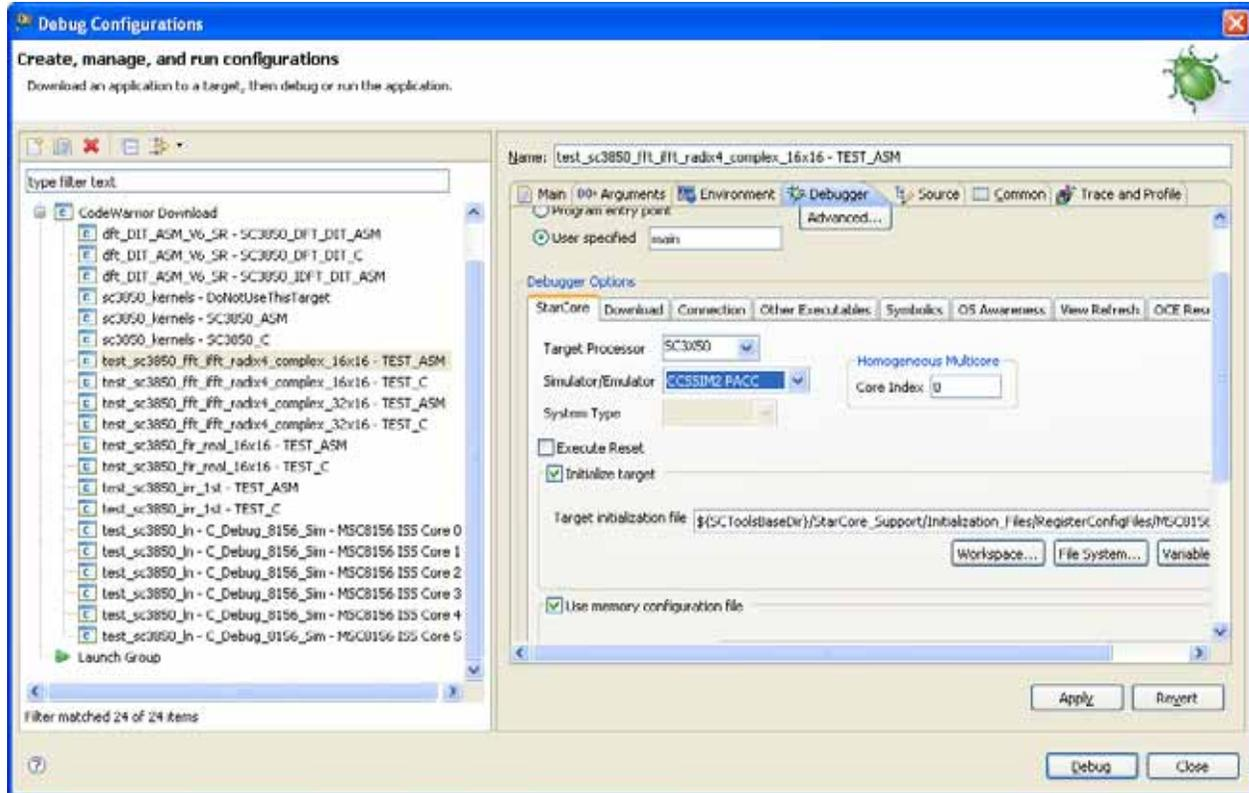

Figure 12. Debug configuration on SC3850 PACC simulator
- Click the StarCore tab in the Debugger page. Select SC3x50 for target processor and CCSSIM2 PACC for simulator/emulator, as shown in Figure 12.